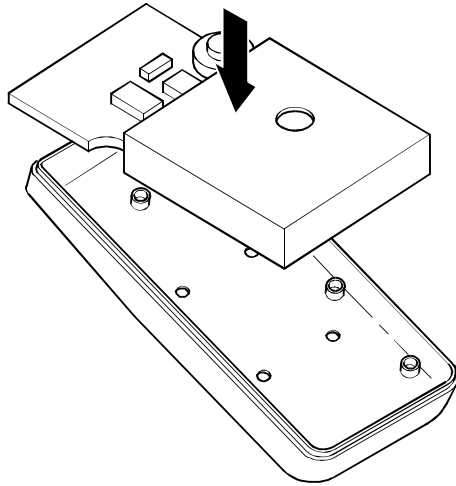

Figure 19: Handsfree PCB reinstallation
1. (Figure 19) Reinstall the handsfree PCB into the case (3 screws).